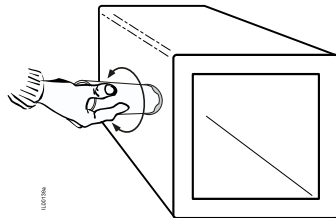

FIG. 1
STEP 1. Use the "cookie" cutter to make a neat 2-inch (51 mm) hole in the plenum (Fig. 1). It may be necessary to first cut the outside jacket with a utility knife to prevent tearing of the outside jacket. After the hole is cut, be sure to remove any excess fiberglass in the opening. For square the best position is usually in the side of the duct as shown in Figure 1, but it can go on any side.